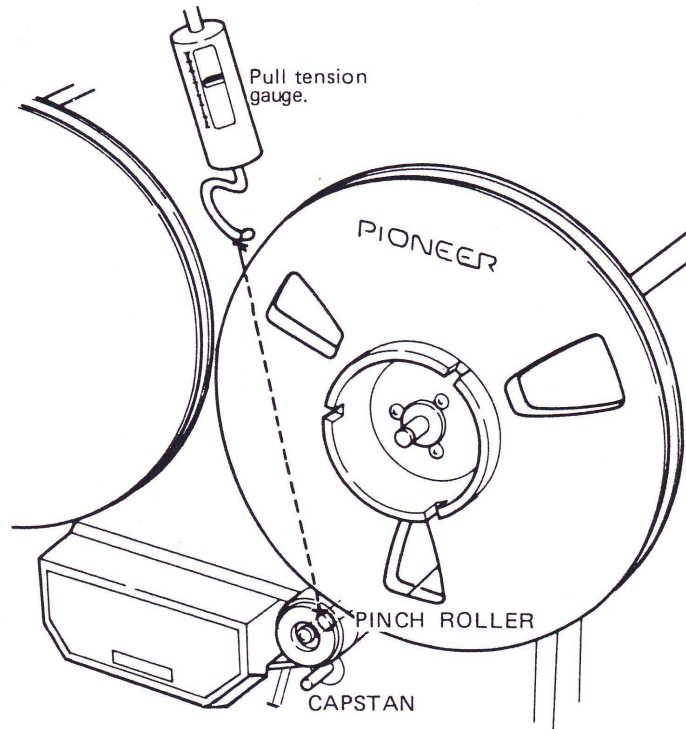

Fig. 23
6. Play tape at constant speed (7-1/2 ips) hook tension gauge as in Fig. 23, then pull the gauge, and confirm the value when travel is stopped in 1.7kg ~ 2kg range.